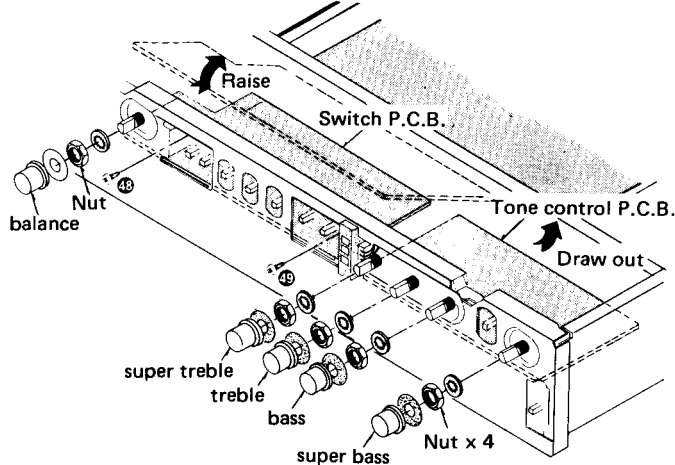

Fig. 8
2. Remove each tone control knob and 4 units of the volume knobs, and raise the switch P.C.B. in the direction of the arrow. [Fig. 8]
3. Remove the balance knob of switch P.C.B. as well as 1 nut and 2 switch setscrews [Fig. 8: ④⑧, ④⑨] and draw out the tone control P.C.B. in the direction of the arrow.